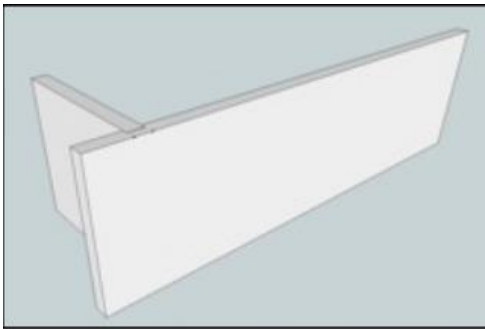
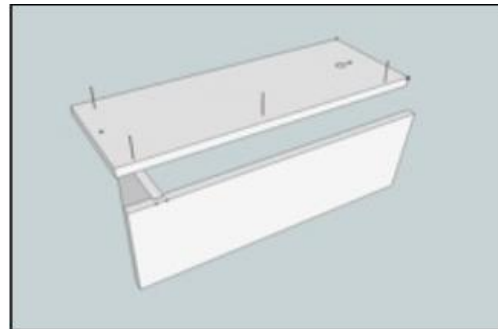

Figure 2: Support Fixed Side Panel with Base Panel, into the
Figure 3: Attach the Rear Panel to the Fixed Side Panel.
- Place the “Side Panel” (SP) on its short edge.
- Slip the “Base” (BA) into the rebated/grooved end of the SP for stability (Fig.2).
- Place the “Rear Panel” (RP) on the SP aligning their top angled edges.
- Nail the RP to the SP using 3 nails along its length – top, middle and base (Fig. 3).